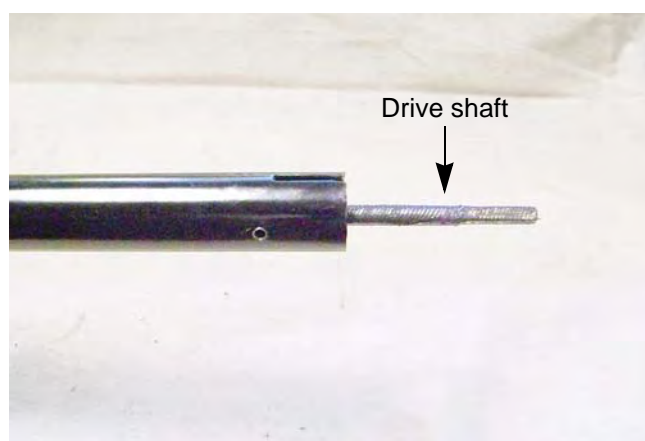

Figure 7.4
7. Slide the drive shaft out of the housing. See Figure 7.4.